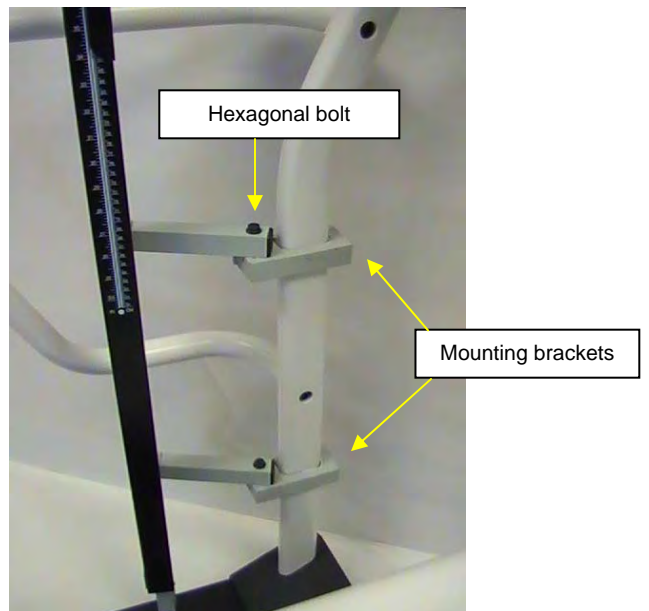

Figure 4
8. Re-assemble the mounting brackets, and then loosely screw the mounting brackets to the mounting rod (see Figure 4).